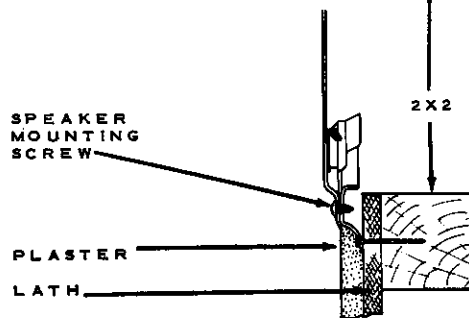

Figure 5.
3. After plastering is completed, install the speaker (Figure 5).